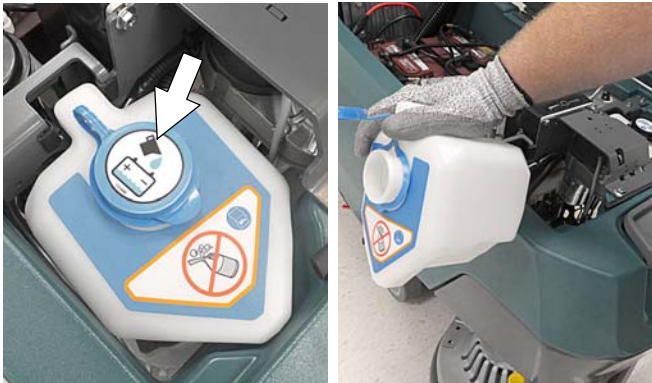

FIG. 97
5. Models equipped with optional automatic battery watering tank - Lift tank from machine and empty the water from tank (Figure 97).